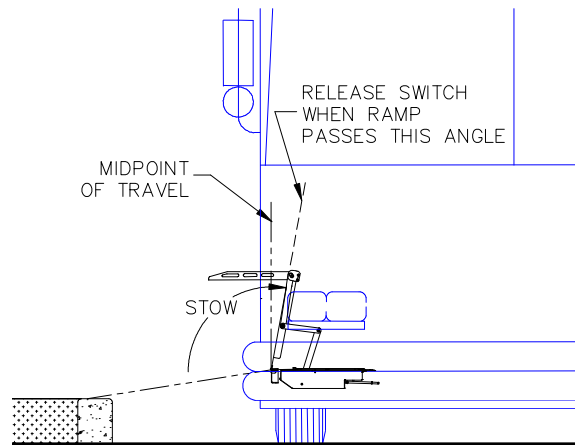

Figure 3-3: Ramp Midpoint during stow
- 1) Refer to **Figure 3-3**. Move control switch to STOW position. Hold switch in STOW until ramp has passed its travel midpoint (vertical), then release switch. After ramp passes midpoint, it will continue folding to the stowed position without assistance.